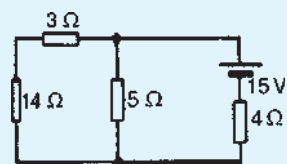

Figure 13.49
- Use Thévenin's theorem to find the current flowing in the 14Ω resistor of the network shown in Fig. 13.49. Find also the power dissipated in the 14Ω resistor.